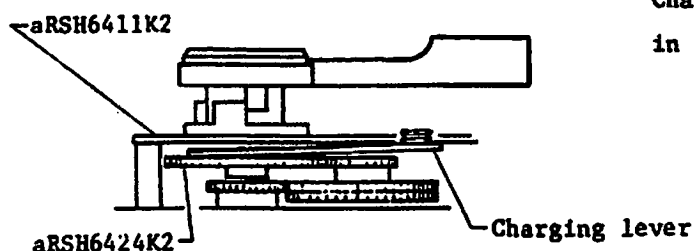

Fig. 126
- (2) Winding gear No. 1 (aRSH6424K2) and Base plate (aRSH6411K2) shall not prevent Charging lever from operating as shown in Fig. 126.